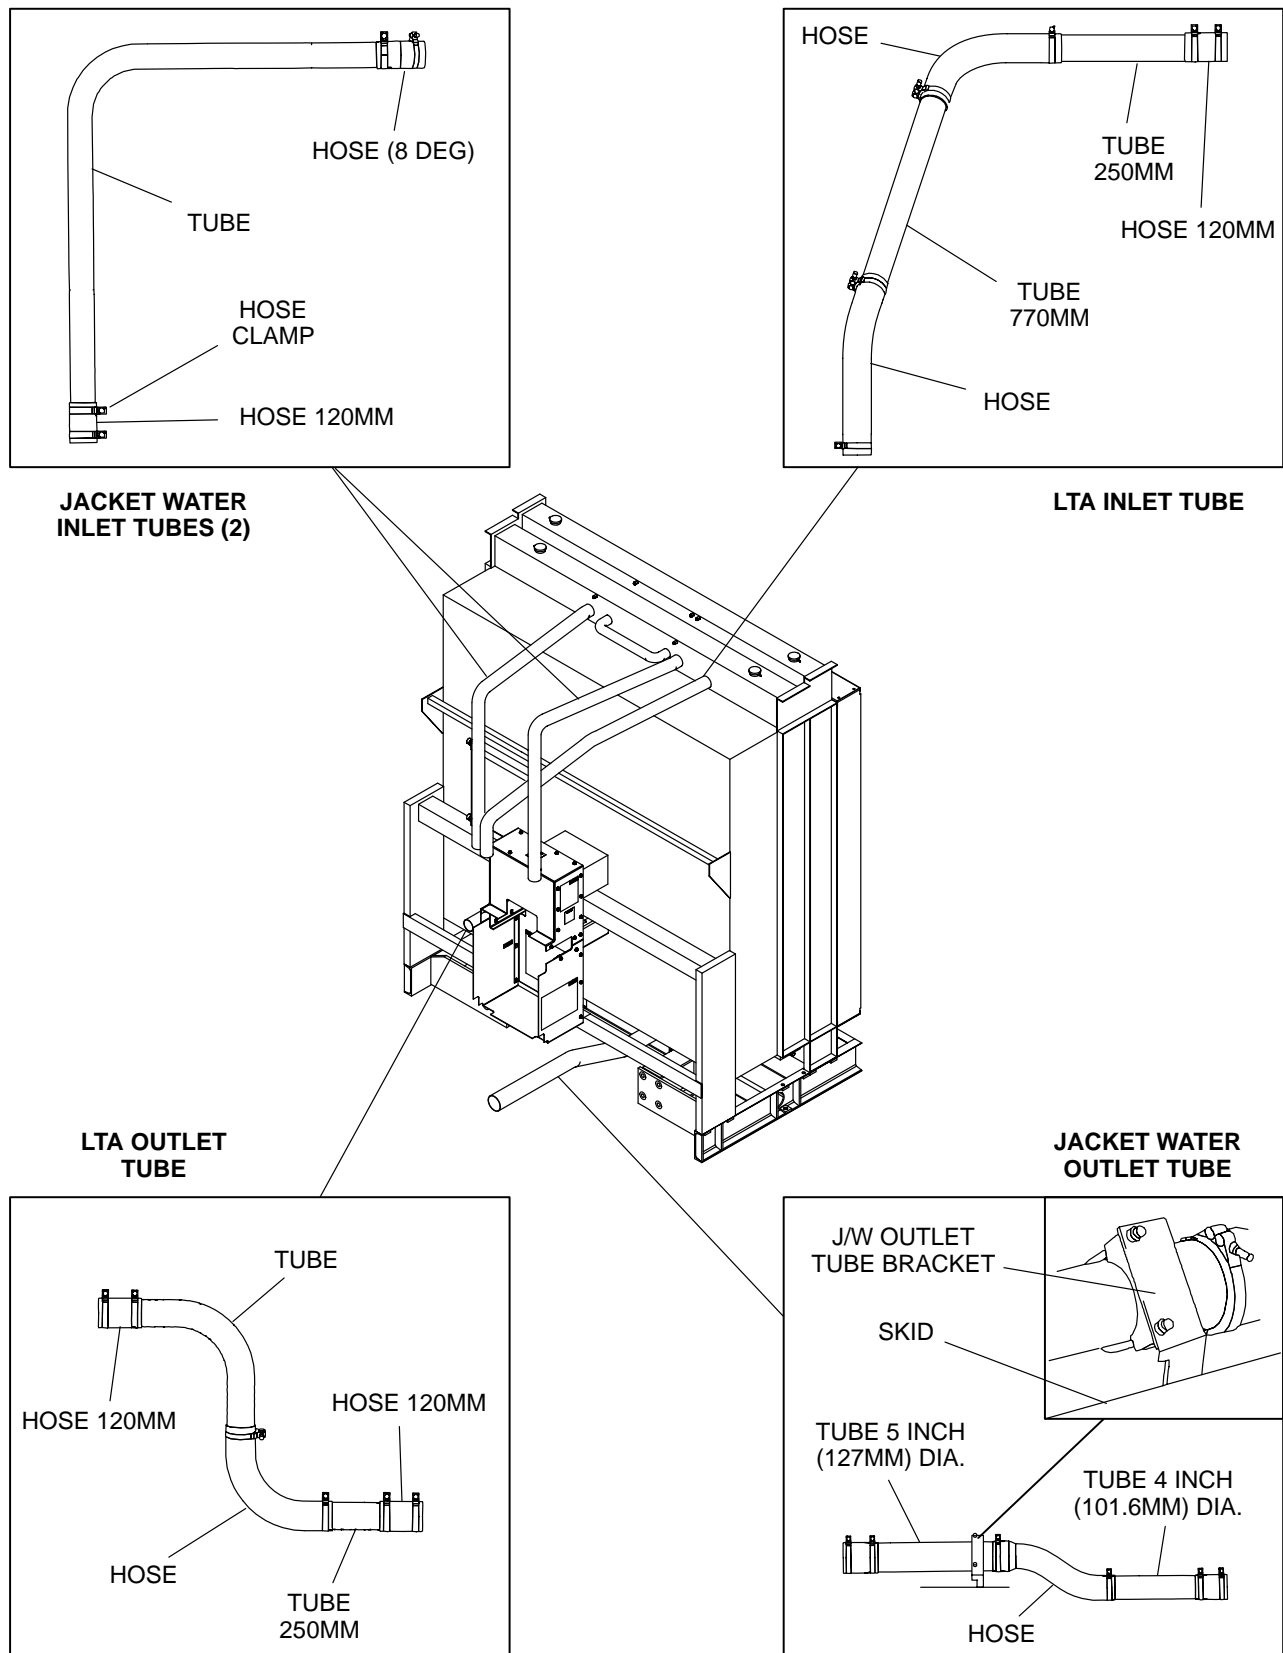

FIGURE 10-2. RADIATOR TUBES
1. Install the J/W outlet tube bracket (Figure 10-2) to the skid using two M8 x 25 mm screws.